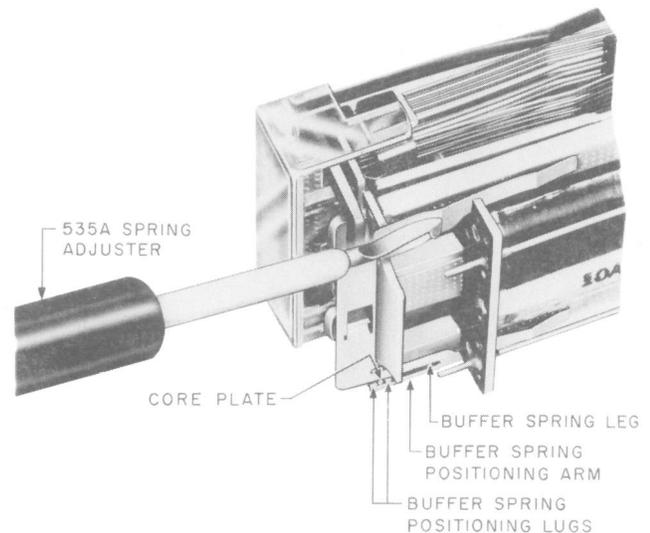

Fig. 20—Method of Adjusting Buffer Spring Tension
(4) To change the tension of a buffer spring, place the 535A spring adjuster on one of the legs of the buffer spring so that the spring is in the slot of the adjuster. Slide the adjuster back toward the spoolhead to approximately the position shown in Fig. 20. To increase the tension, bend the spring toward the left. To reduce the tension, bend the spring toward the right. In making this adjustment, keep the buffer spring approximately parallel to the edge of the core plate by distributing the tension between the upper and lower legs of the spring. Take care not to disturb the pretensioned bends. Do not attempt to obtain the required tension by one adjustment. Increase the tension gradually to avoid excessive kinking of the spring which would make further adjustment difficult. Recheck the buffer spring position requirement.